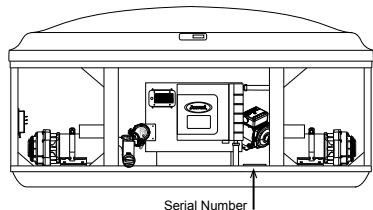
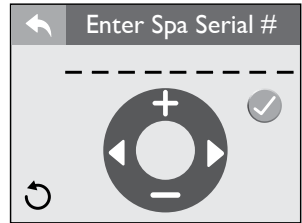

Figure 10.2b
Figure 10.2c
Registering your spa is important in order to validate your warranty. In order to register you will need to have the spa serial number, Figure 10.2b, then you will need to register online in order to receive a passcode. A passcode is only given for North American models only. The passcode must be entered on the control panel in order to unlock the Registration Lockout screen, Figure 10.2c.
2. Input the 9-digit serial number, Figure 10.2c. If your serial number begins with a letter, use the  or  buttons until the letter is displayed.